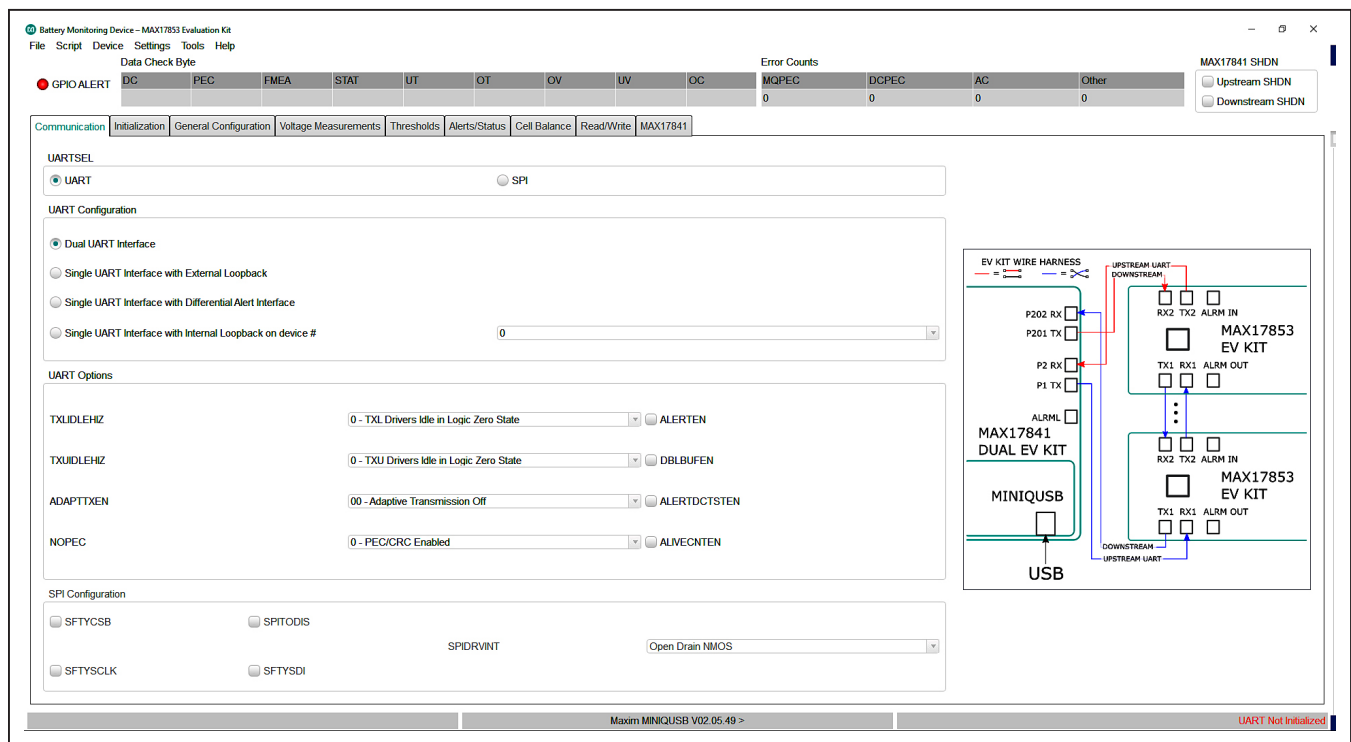

Figure 8. Communication Tab
**V02.05.xx** and **UART Not Initialized** (see Figure 8). With the MINIQUSB detected, the user can proceed to the next step.
- 13) In the **Communication** tab (Figure 8), click on the **Single UART with External Loopback** radio button.
The GUI startup cockpit is designed to guide the user through hardware setup and provides overall startup system information. At startup, the GUI automatically initializes and establishes communication with the Maxim MINIUSB+ interface board and places the user on the **Communication** tab (see Figure 8). UART status is shown in the lower-right corner of the cockpit.
The GUI is preset to UART communication with a dual UART interface (see Figure 8). When selecting the UART
Located in the **Communication** tab (Figure 8) is the **UART Options** group box. Options set in the **UART Options** group box control TXL and TXU idle state impedance, adaptive transmission setting, and packet error check (PEC). The user can also enable and evaluate the alert function, double-buffer feature, UART DC diagnostic test, and control the alive-counter bit (ALIVECNTEN).